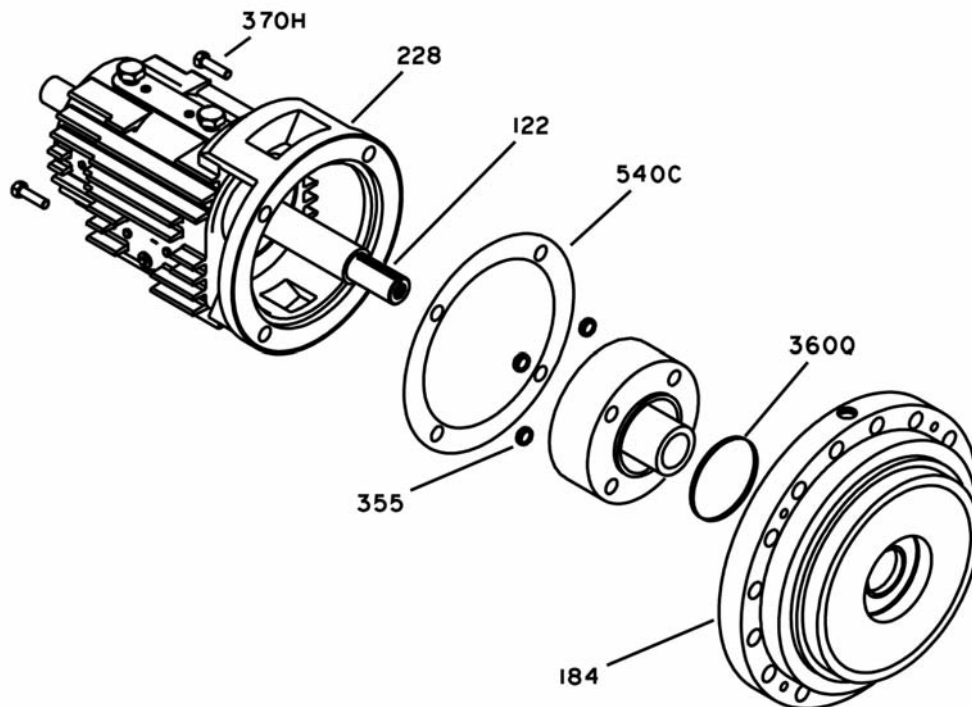
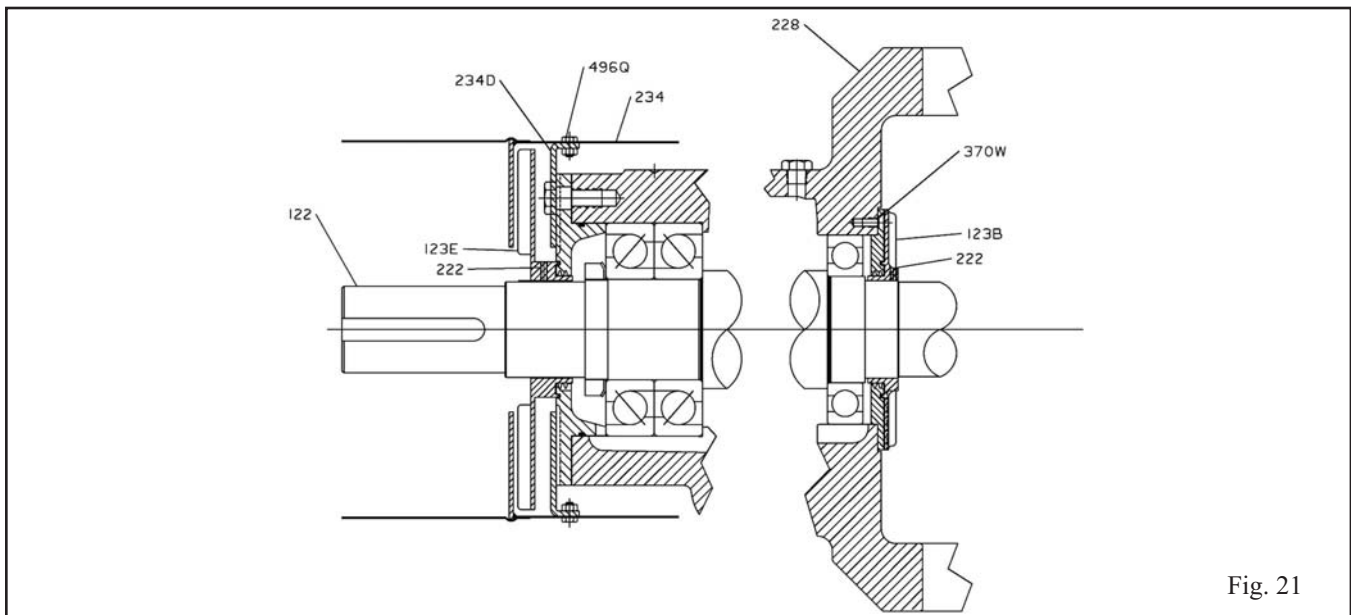

Fig. 16
Fig. 21
1. Loosen and remove gland stud nuts (355) (Fig. 16).
2. Slide cartridge mechanical seal away from seal chamber cover (184).
3. Install eyebolt in tapped hole provided in seal chamber cover (184).
- Separate seal chamber cover (184) from bearing frame (228) by tapping on cover flange with a hardwood block or a soft face hammer.
- Guide seal chamber cover (184) over end of shaft (122) once cover releases from bearing frame (228).
The radial heat flinger (123B) replaces the standard radial INPRO (123) and is removed in the same manner except 3 set screws (222) need to be loosened (Fig. 21). Remove and discard frame / seal chamber cover thermal gasket (540C) (Fig. 16). (Replace this with a new gasket during reassembly. Remainder of disassembly is the same as grease lubrication.
1. Loosen radial heat flinger set screw (222) (Fig. 21).
2. Loosen thrust fan set screw (222). SA pumps thrust fan sits on coupling diameter.
3. Slide thrust fan (123E) off shaft (122).